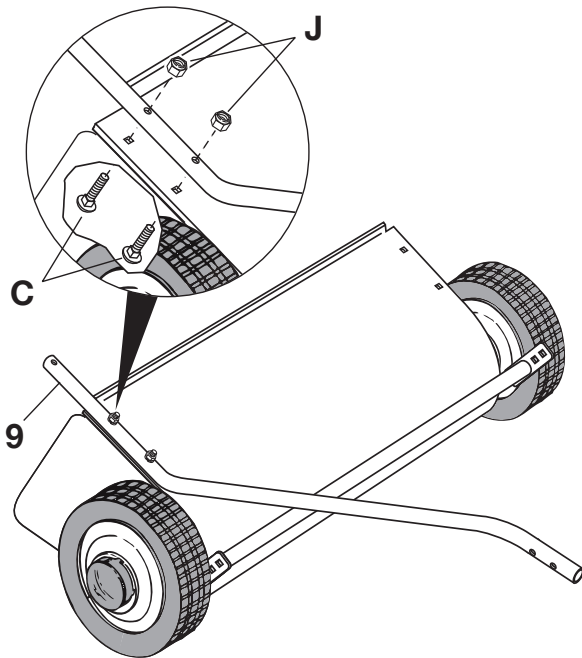

Figure 5
STEP 5: (SEE FIGURE 5)
- Attach the right hitch tube (9) to the sweeper body using 5/16-18 x 1-1/2" carriage bolts (C) and 5/16-18 nylock nuts (J). Hand-tighten.